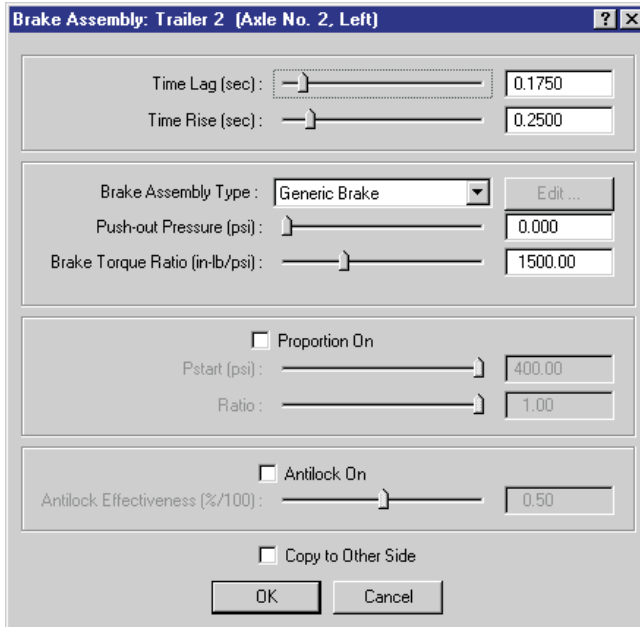

Figure 5-9 Vehicle Wheel Brake dialog, used for editing the brake attributes for the selected wheel.
- Click on the left rear wheel and choose *Brake*. The Wheel Brake dialog is displayed (see Figure 5-9), and we're ready to edit the brake characteristics for the left rear wheel.